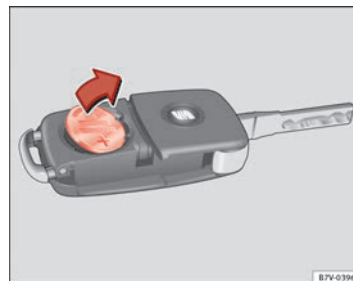

Fig. 44 Vehicle key: removing the battery. ▶
- Extract the battery from the compartment using a suitable thin object ⇒ fig. 44.
- Place the new battery in the compartment, pressing in the direction of the arrow as shown ⇒ fig. 44 ⇒ .